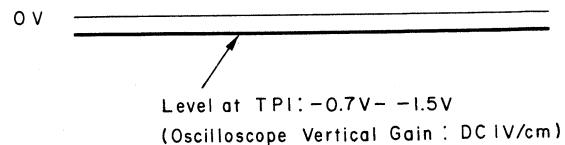

Fig. 4.6
Refer to Figs. 4.6 – 4.8.
- Connect a Synchroscope to TP1 on the Main Logic P.C.B. Ass'y. Set the Synchroscope to DC mode and 1 V/division vertical gain. Check to insure that the minus level (-0.7 to -1.5 V) is observed on the Synchroscope as shown in Fig. 4.6.